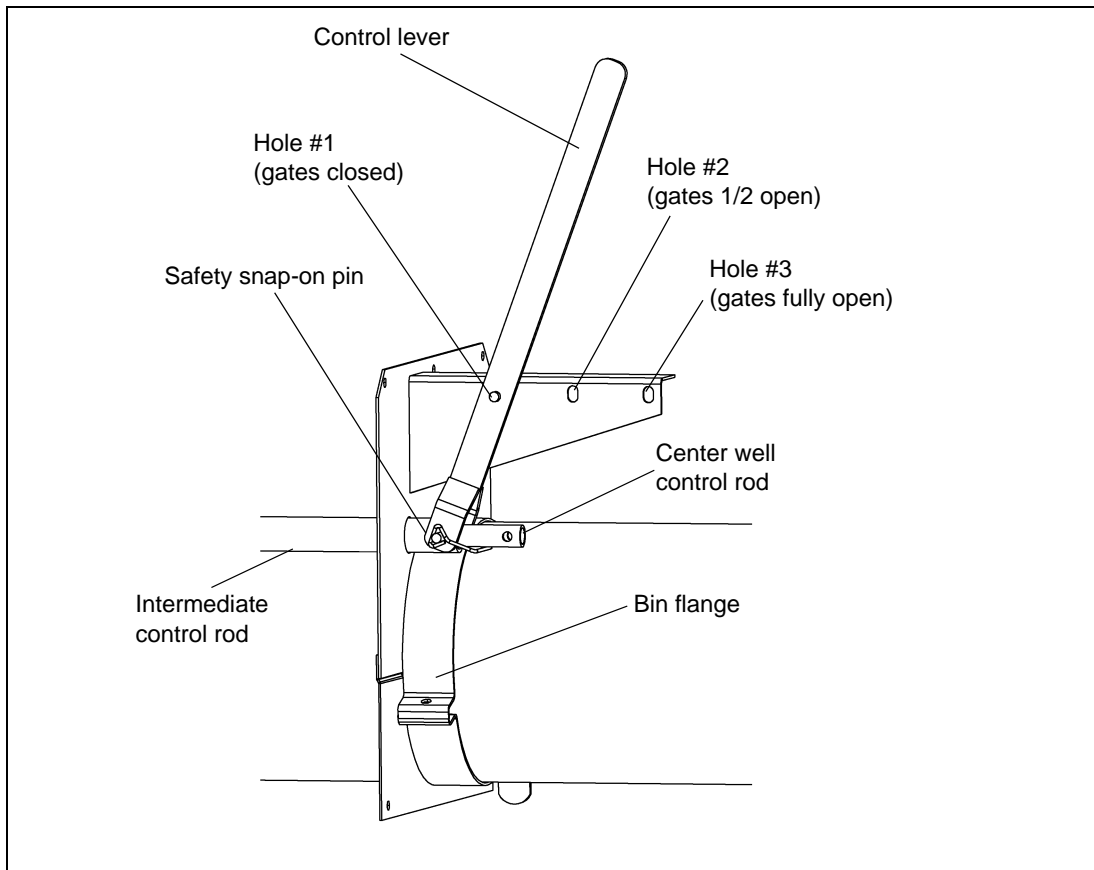

Figure 40 6" Systems
2. Attach the control lever by sliding the safety snap-on pin through the lever and both control rods as Figure 40.